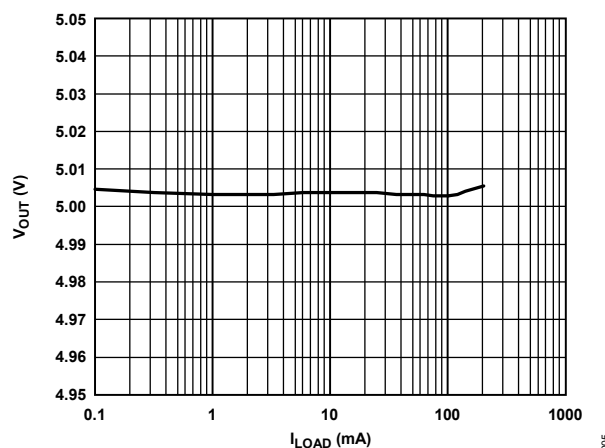

Figure 6. Output Voltage ( $V_{OUT}$ ) vs. Load Current ( $I_{LOAD}$ )
- 1 Based on an endpoint calculation using 100 $\mu A$  and 200mA loads. See Figure 6 for typical load regulation performance for loads less than 1mA.